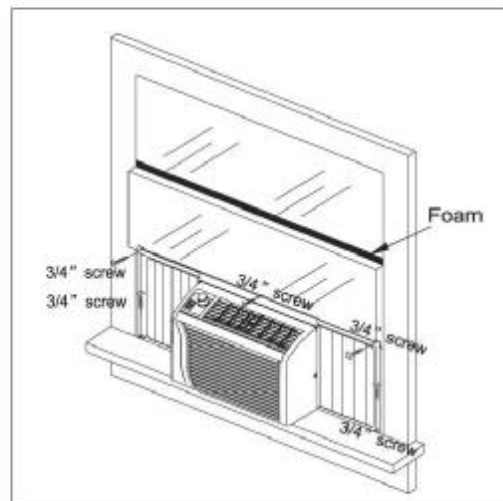

Fig. 6
6. Carefully lift the air conditioner and slide it into the open window. Make sure the bottom guide of the unit drops into the notches of the L brackets. When the air conditioner drops into the L brackets, the air conditioner will be centered in window opening as shown in Fig. 6.
Fix top channel to window sash with one 3/4" screw, and fix side curtain frames with four 3/4" screws as shown in Fig.6.